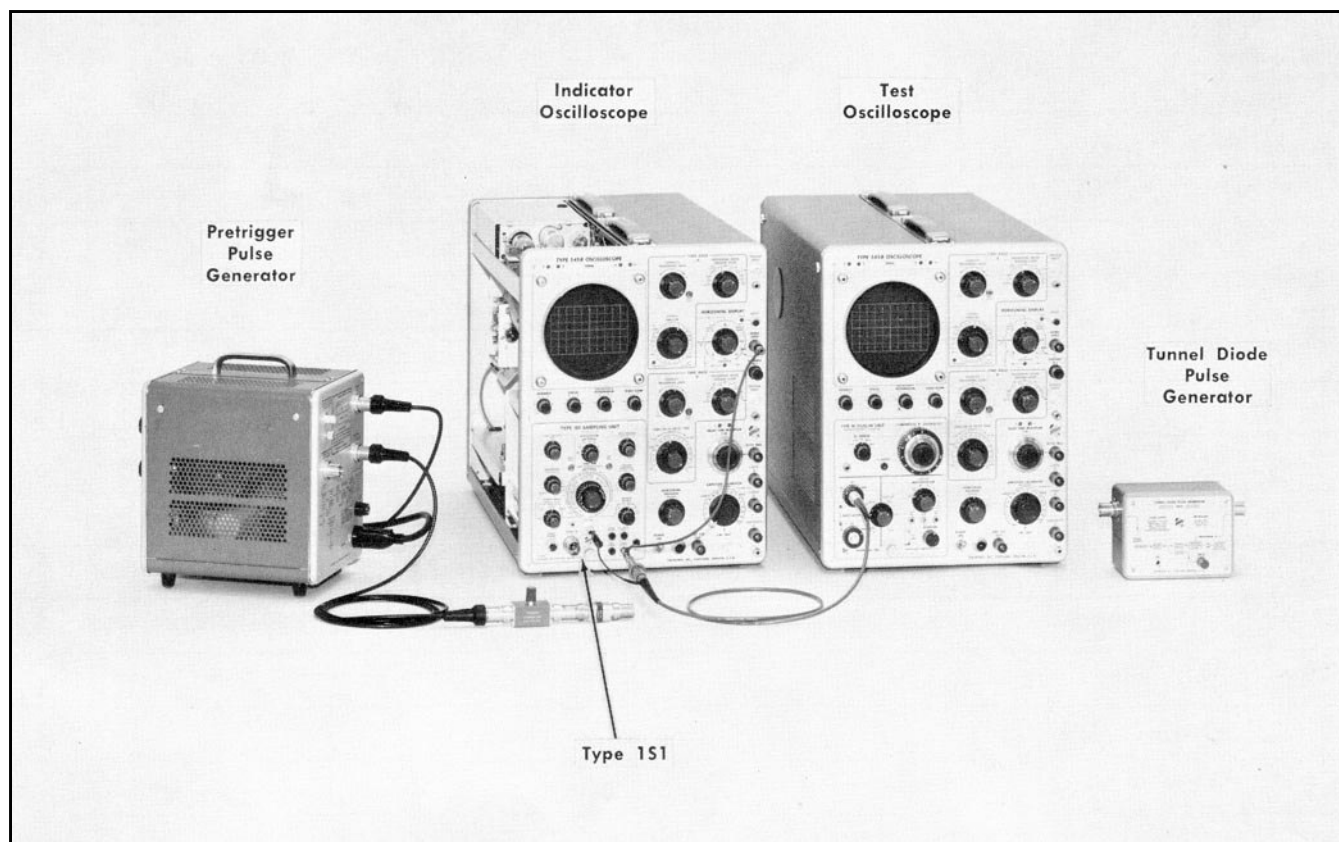

Fig. 5-29. Initial test equipment setup for steps 18 through 20
- Test equipment setup is shown in Fig. 5-29.